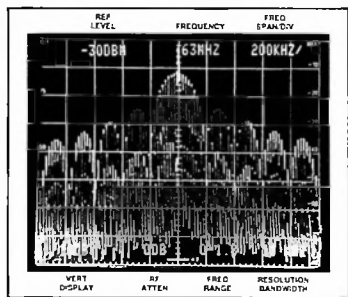

Figure 30. Note void in main lobe and pulse extension on top of main lobe caused by poor carrier on/off ratio
3. Poor carrier on/off ratio shows up as a response buried under the main lobe (see Fig. 30).